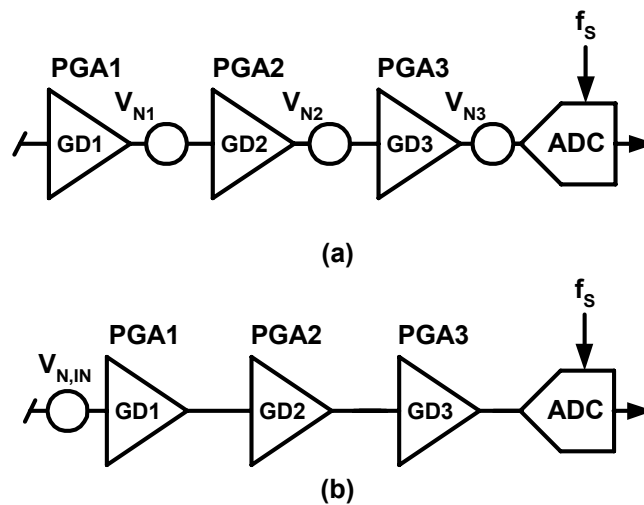
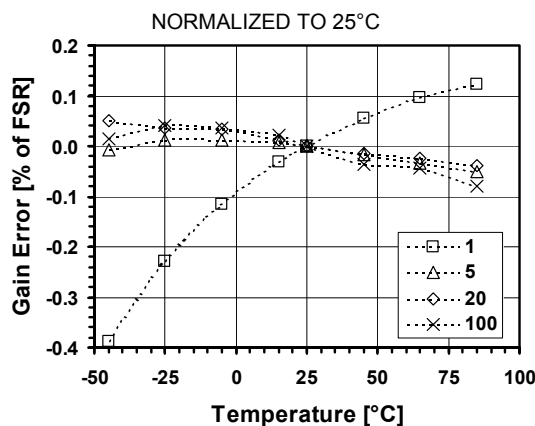

Figure 16-18 (a) Simple noise model for PGAs and ADC and (b) total input referred noise
Figure 16-19 Gain error vs. temperature for different PGA gains
- (1) Gain defined as overall PGA gain  $GD_{TOT} = GD_1 \cdot GD_2 \cdot GD_3$ . Maximum input voltage is given by:  $V_{IN,MAX} = \pm(V_{REF}/2) \cdot (OSR/OSR+1)$ .
- (2) Offset due to tolerance on  $GDOFF_2$  or  $GDOFF_3$  setting. For small intrinsic offset, use only ADC and PGA1.
- (3) Measured with block connected to inputs through AMUX block. Normalized input sampling frequency for input impedance is  $f_s = 512kHz$ . This figure must be multiplied by 2 for  $f_s = 256kHz$ , 4 for  $f_s = 128kHz$ . Input impedance is proportional to  $1/f_s$ .
- (4) Figure independent from PGA1 gain and sampling frequency  $f_s$ . See model of Figure 16-18(a). See equation Eq. 21 to calculate equivalent input noise.
- (5) Figure independent on PGA2 gain and sampling frequency  $f_s$ . See model of Figure 16-18(a). See equation Eq. 21 to calculate equivalent input noise.
- (6) Figure independent on PGA3 gain and sampling frequency  $f_s$ . See model of Figure 16-18(a) and equation Eq. 21 to calculate equivalent input noise.
- (7) Resolution is given by  $n = 2 \cdot \log_2(OSR) + \log_2(N_{ELCONV})$ .  $OSR$  can be set between 8 and 1024, in powers of 2.  $N_{ELCONV}$  can be set to 1, 2, 4 or 8.
- (8) If a ramp signal is applied to the input, all digital codes appear in the resulting ADC output data.
- (9) Gain error is defined as the amount of deviation between the ideal (theoretical) transfer function and the measured transfer function (with the offset error removed). (See Figure 16-19)
- (10) Offset error is defined as the output code error for a zero volt input (ideally, output code = 0). For  $\pm 1$  LSB offset,  $N_{ELCONV}$  must be  $\geq 2$ .
- (11) INL defined as the deviation of the DC transfer curve of each individual code from the best-fit straight line. This specification holds over the full scale.
- (12) DNL is defined as the difference (in LSB) between the ideal (1 LSB) and measured code transitions for successive codes.
- (13) Figures for Gains = 1 to 100. PSRR is defined as the amount of change in the ADC output value as the power supply voltage changes.
- (14) Conversion time is given by:  $T_{CONV} = (N_{ELCONV} \cdot (OSR + 1) + 1) / f_s$ .  $OSR$  can be set between 8 and 1024, in powers of 2.  $N_{ELCONV}$  can be set to 1, 2, 4 or 8.
- (15) PGAs are reset after each writing operation to registers **RegAcCfg1-5**. The ADC must be started after a PGA or inputs common-mode stabilisation delay. This is done by writing bit Start several cycles after PGA settings modification or channel switching. Delay between PGA start or input channel switching and ADC start should be equivalent to  $OSR$  (between 8 and 1024) number of cycles. This delay does not apply to conversions made without the PGAs.
- (16) Nominal (maximum) bias currents in PGAs and ADC, i.e. **IB\_AMP\_PGA[1:0] = '11'** and **IB\_AMP\_ADC[1:0] = '11'**.
- (17) Bias currents in PGAs and ADC set to 3/4 of nominal values, i.e. **IB\_AMP\_PGA[1:0] = '10'**, **IB\_AMP\_ADC[1:0] = '10'**.
- (18) Bias currents in PGAs and ADC set to 1/2 of nominal values, i.e. **IB\_AMP\_PGA[1:0] = '01'**, **IB\_AMP\_ADC[1:0] = '01'**.
- (19) Bias currents in PGAs and ADC set to 1/4 of nominal values, i.e. **IB\_AMP\_PGA[1:0] = '00'**, **IB\_AMP\_ADC[1:0] = '00'**.
The simple noise model of Figure 16-18(a) is used to estimate the equivalent input referred rms noise  $V_{N,IN}$  of the acquisition chain in the model of Figure 16-18(b). This is given by the relationship:
Note: see noise model of Figure 16-18 and equation Eq. 21.
Figure 16-19 shows gain error drift vs. temperature for different PGA gains. The curves are expressed in % of Full-Scale Range (FSR) normalized to 25°C.